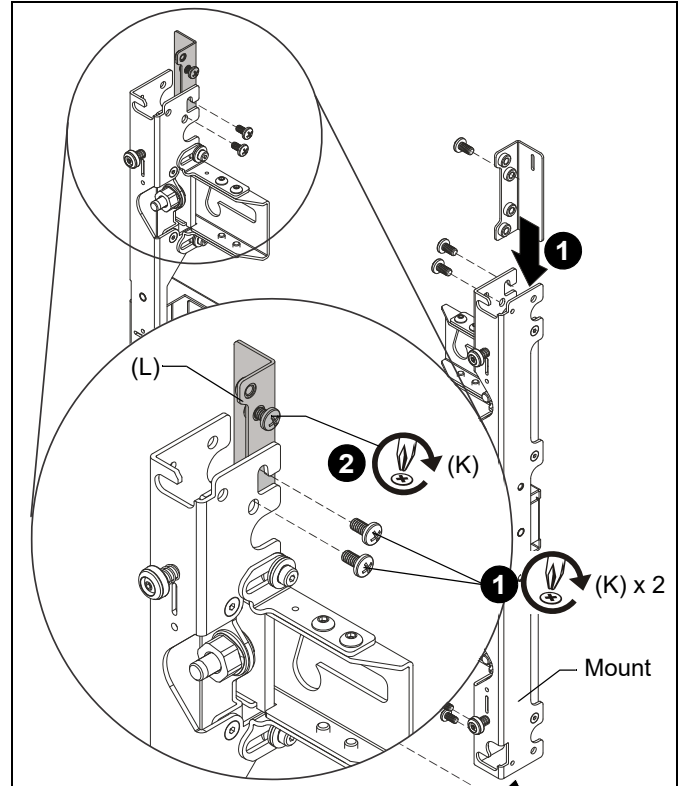

Figure 3
1. Slide the vertical connector (L) down from the top of the mount, and attach with two 1/4-20 x 1/2" Phillips pan head screws (K) per vertical connector. (See Figure 3)
2. Loosely install one 1/4-20 x 1/2" Phillips pan head screw (K) in the lower screw hole at the top of each vertical connector (L). (See Figure 3)